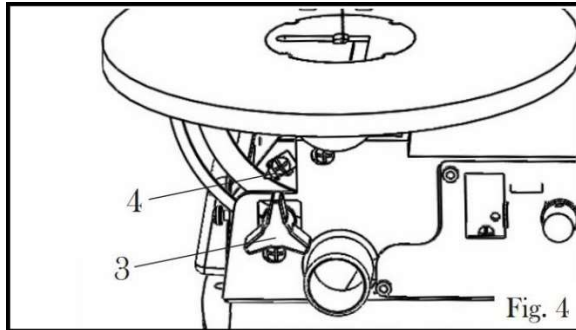

Figure 4
5. Now secure the table in place with the bevel locking knob located under the table (3) to prevent any further movement and lock in the adjustments. (see figure 4)
7. Loosen Phillips head screw (4) that holds the bevel scale pointer and adjust it so that the position of the pointer is at 0°. Then tighten the screw to secure the adjustment. (figure 4)